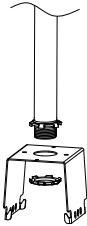

Figure2
1. Mount the bracket onto a 3/4"NPT (Figure 2).